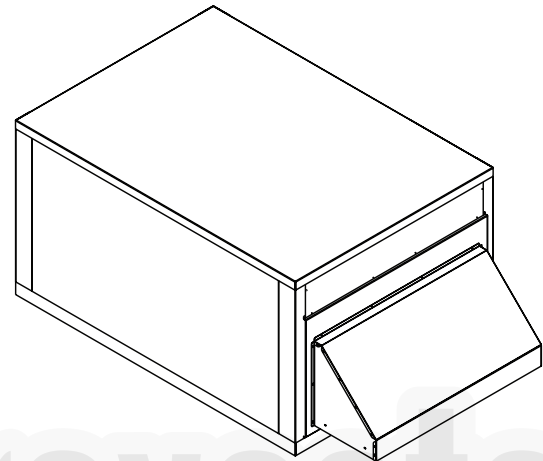

Fig. 31 — Secure Door Panel to Unit
8. Align the holes in the top and bottom of the door panel to the holes in the rooftop unit. Secure the door panel to the unit using the provided no. 10-16 x 1/2 screws as shown in Fig. 31.